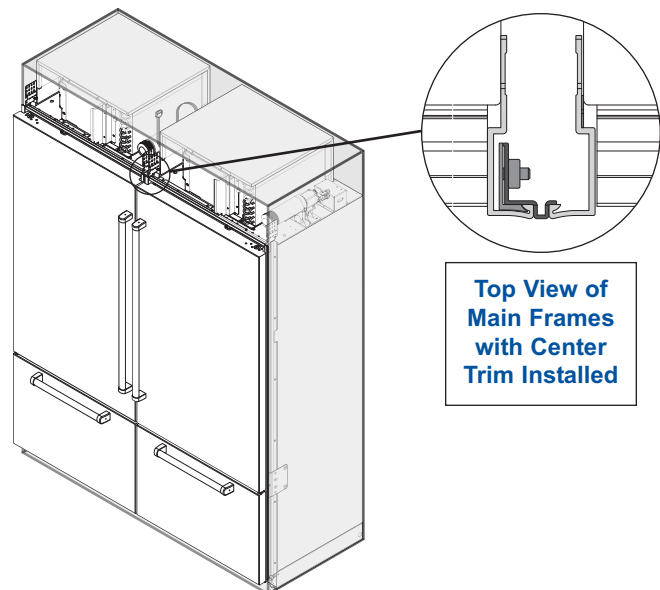

Figure 7. Both Units Installed
Install, level and align unit until its main frame bumps against flange of center trim piece and bottom of main frame aligns with bottom of center trim piece (See Figures 7).
- i. Using a 1/2" wrench, loosen the four bolts (2 each unit) at bottom adjoining corners of the appliances, leaving a 1/8" (3mm) to 1/4" (6mm) gap between bolt heads and unit shell bottom (See Figure 7).